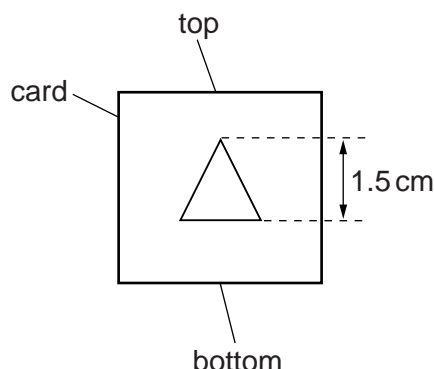

Fig. 4.2
2. The apex of the triangle must be towards the top of the card, as shown in Fig. 4.2.